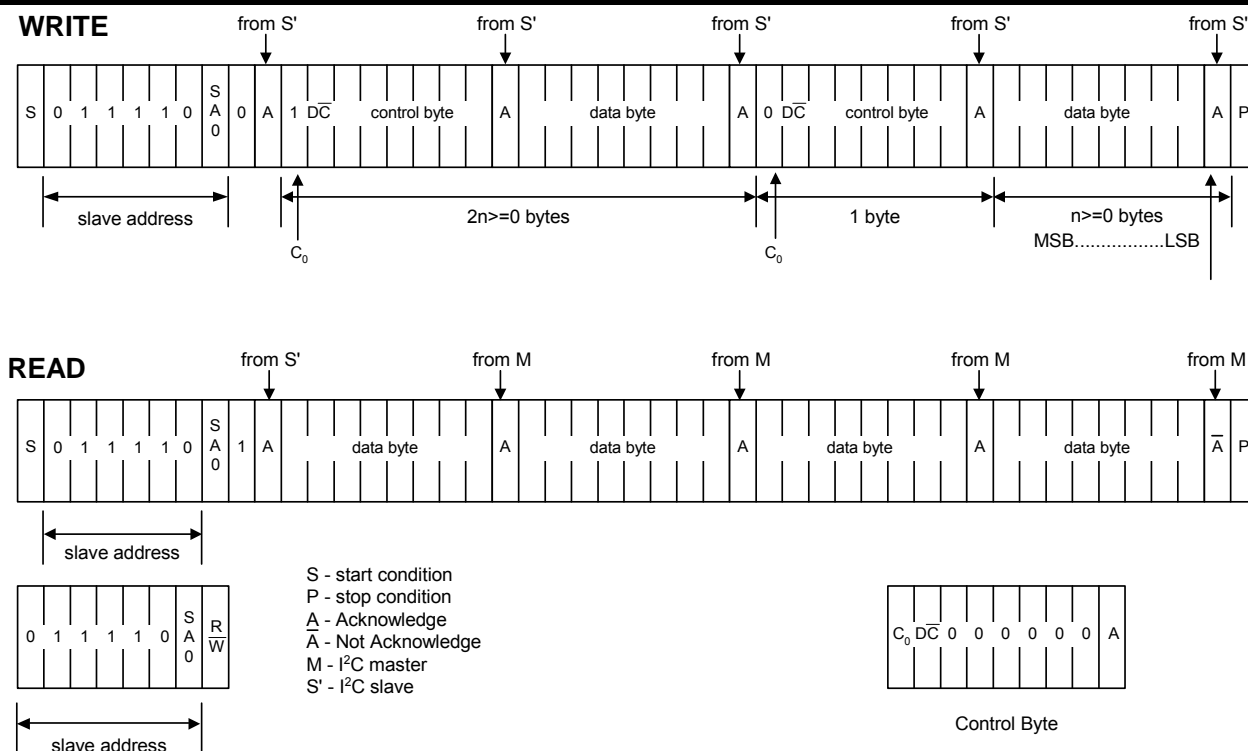

Figure 7 I2C Protocol
The SH1106 supports both read and write access. The  $R/\bar{W}$  bit is part of the slave address. Before any data is transmitted on the I2C-bus, the device that should respond is addressed first. Two 7-bit slave addresses (0111100 and 0111101) are reserved for the SH1106. The least significant bit of the slave address is set by connecting the input SA0 to either logic 0(VSS) or 1 (VDD1). The I2C-bus protocol is illustrated in Fig.7. The sequence is initiated with a START condition (S) from the I2C-bus master that is followed by the slave address. All slaves with the corresponding address acknowledge in parallel, all the others will ignore the I2C-bus transfer. After acknowledgement, one or more command words follow which define the status of the addressed slaves. A command word consists of a control byte, which defines Co and  $D/\bar{C}$  (note1), plus a data byte (see Fig.7). The last control byte is tagged with a cleared most significant bit, the continuation bit Co. After a control byte with a cleared Co-bit, only data bytes will follow. The state of the  $D/\bar{C}$ -bit defines whether the data-byte is interpreted as a command or as RAM-data. The control and data bytes are also acknowledged by all addressed slaves on the bus. After the last control byte, depending on the  $D/\bar{C}$  bit setting, either a series of display data bytes or command data bytes may follow. If the  $D/\bar{C}$  bit was set to '1', these display bytes are stored in the display RAM at the address specified by the data pointer. The data pointer is automatically updated and the data is directed to the intended SH1106 device. If the  $D/\bar{C}$  bit of the last control byte was set to '0', these command bytes will be decoded and the setting of the device will be changed according to the received commands. The acknowledgement after each byte is made only by the addressed slave. At the end of the transmission the I2C-bus master issues a stop condition (P). If the  $R/\bar{W}$  bit is set to one in the slave-address, the chip will output data immediately after the slave-address according to the  $D/\bar{C}$  bit, which was sent during the last write access. If no acknowledge is generated by the master after a byte, the driver stops transferring data to the master.